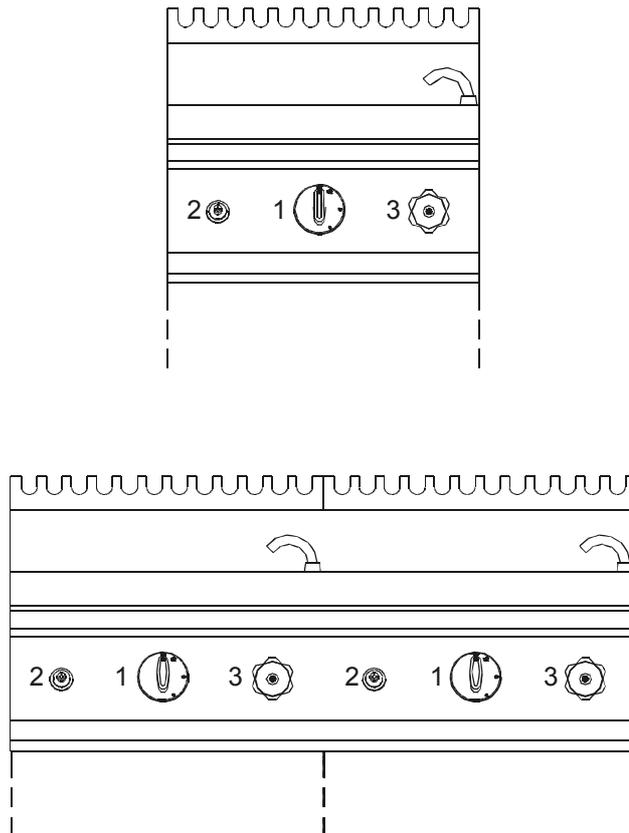

Fig. 1
- Keep the control knob pressed and simultaneously press the piezoelectric ignition button (pos. 2 in figure 1 above);